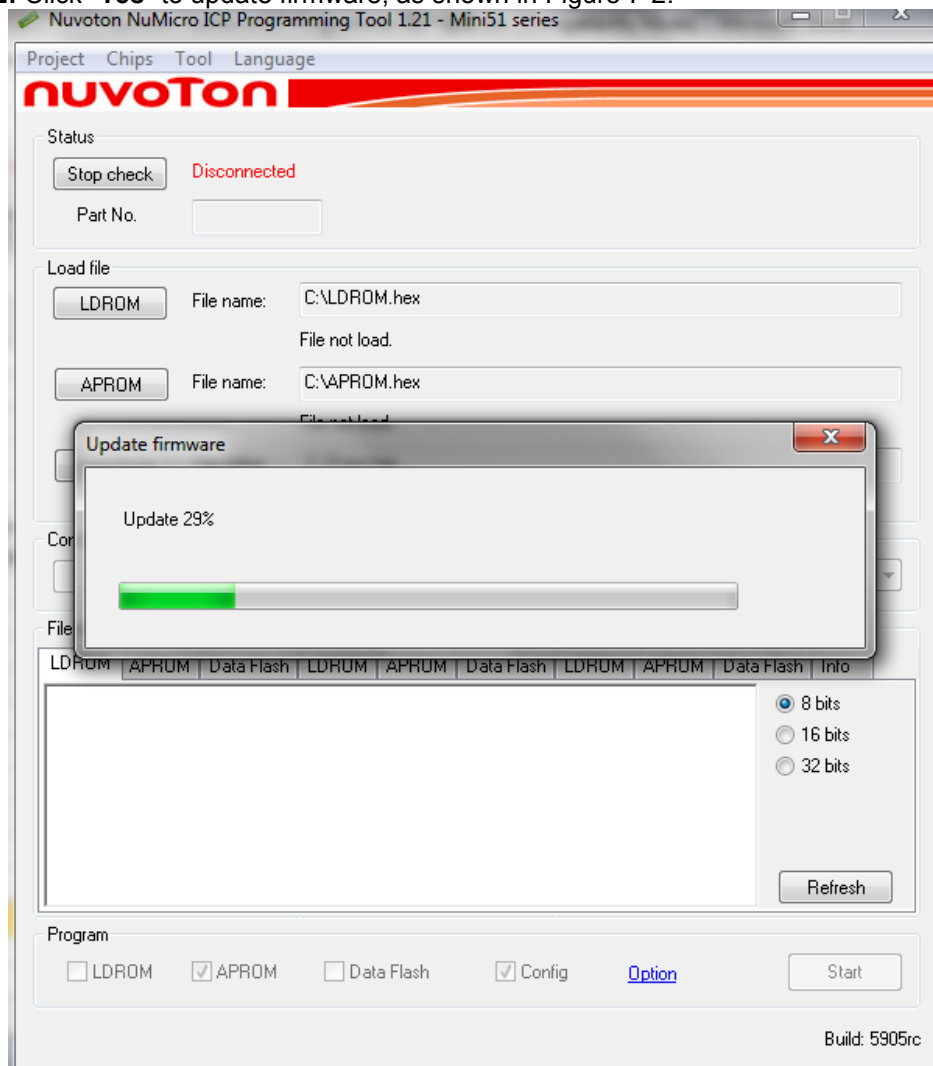

Figure 7-2 Firmware Update Dialog Box
**Step 2:** Click “Yes” to update firmware, as shown in Figure 7-2.